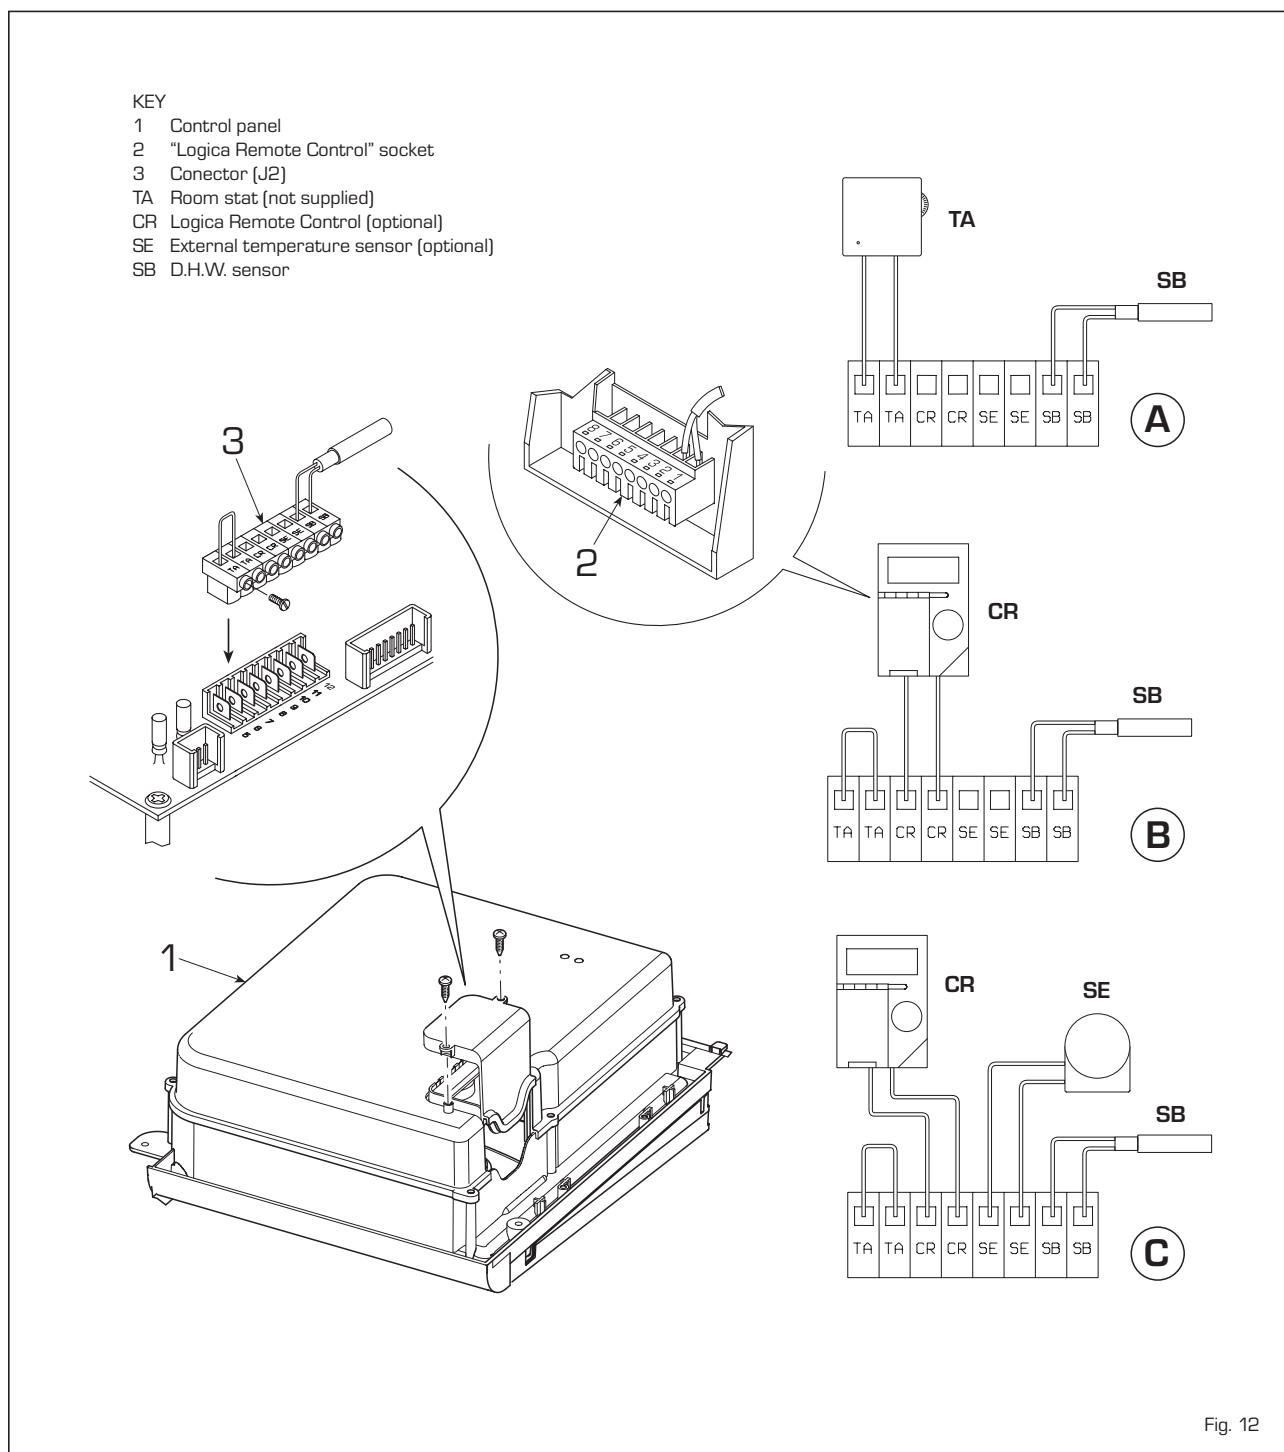

Fig. 12
2.8.1 Room thermostat connection (fig. 12 pos. A)
2.8.2 "Logica Remote Control" connection (fig. 12 pos. B)
2.8.3 External temperature sensor connection (fig. 12 pos. C)